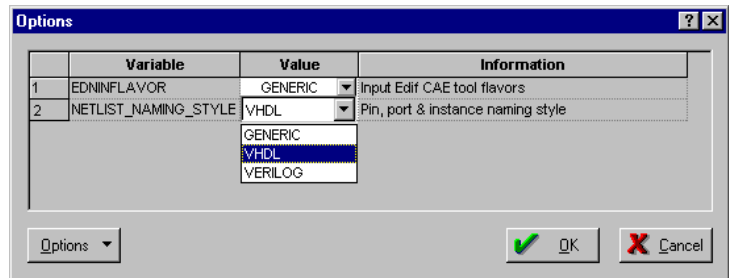

Figure 6-3. Read Netlist Options dialog box
6. **Click the Options button at the lower right corner of the Read Netlist dialog box.** This displays the Read Netlist Options dialog box, as shown in Figure 6-3.
7. **Select VHDL from the value pull-down menu, as shown in Figure 6-3.** Click OK.